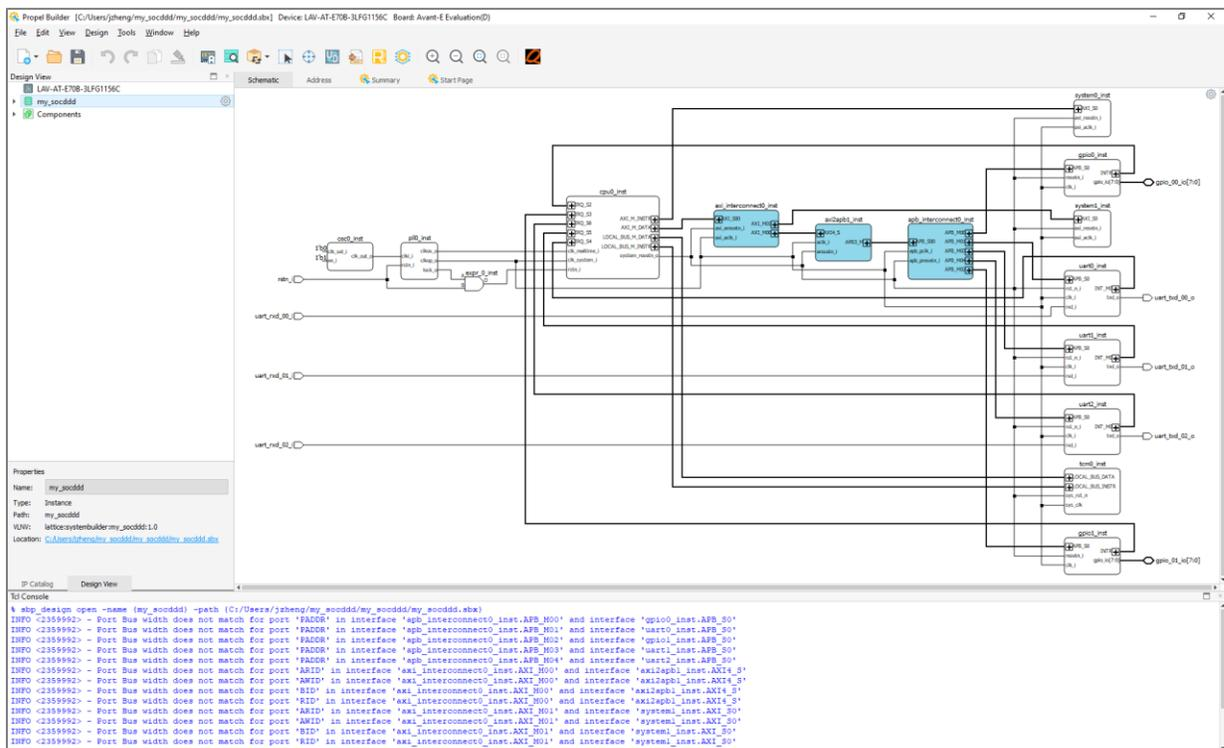

Figure 2.27. Scalable Wizard – Project Create Success
7. The project is successfully created for scalable design (Figure 2.27).